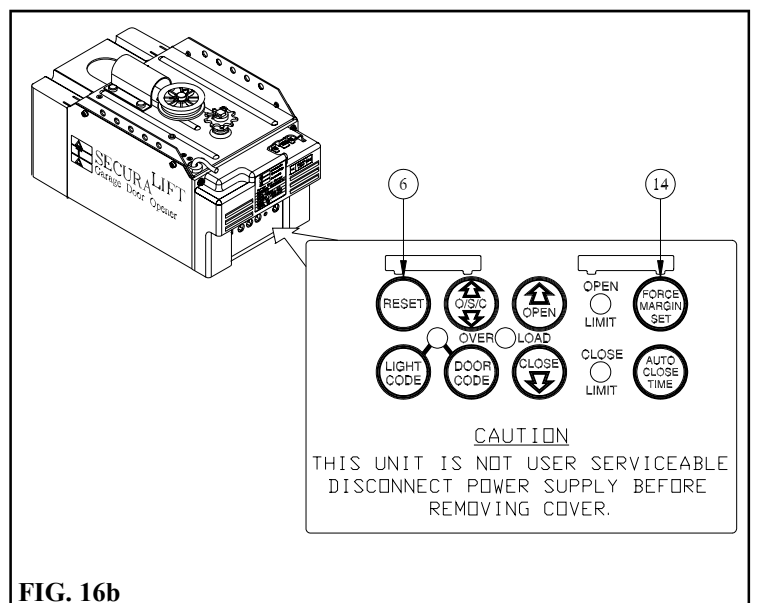

FIG. 16b
1. Press and hold the Force Margin Set button 14 (FIG. 16b).